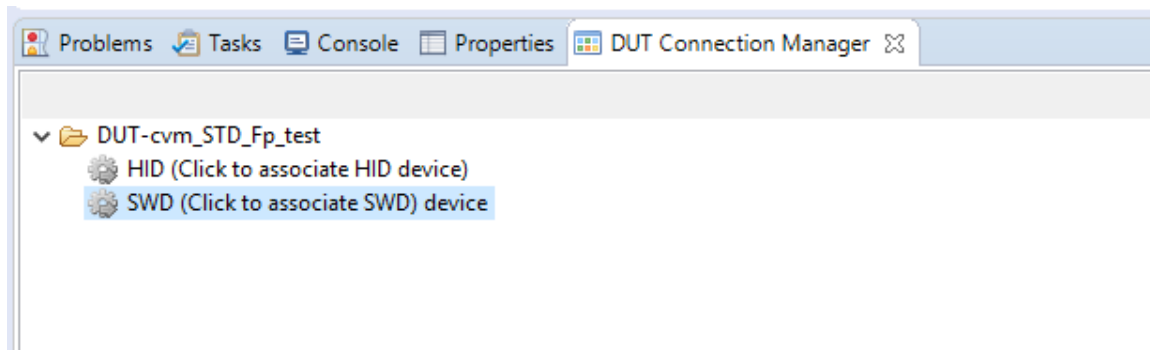

Figure 27: DUT Connection Manager View (for SWD)
7. Click on "**DUT Connection Manager**" and click on "SWD" to connect to J-Link Lite debugger (Figure 27).